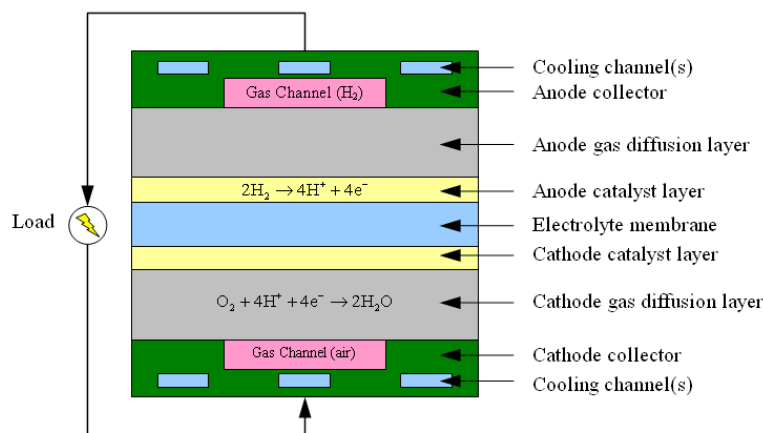

Figure 1: PEM Fuel Cell Zones
A schematic description of a single, straight-channel, counter-flow PEM fuel cell is shown in Figure 1. The dimensions of the fuel cell are $2.4 \times 2.88 \times 125$ mm in the x , y , and z directions, respectively. This model represents a repeating channel of a larger counter-flow PEM fuel cell. The cross-sectional area of the membrane electrode assembly is $2.4 \times 125 = 300$ mm².
All the zones as marked in Figure 1 (with exception of the optional cooling channel) *must* be defined as separate zones within GAMBIT. Note that there can be multiples of each zone. For example, there can be multiple cathode gas diffusion layers, each with different material properties.
FLUENT's PEM fuel cell add-on module requires that boundary and continuum zones be rigorously defined. Care should be taken in order to have a logical system of naming each zone to represent each of the regions shown in Figure 1.
2. Assign continuum zones according to the definitions listed in Table 2. Refer to Figure 1 when selecting which volumes to assign to each zone.